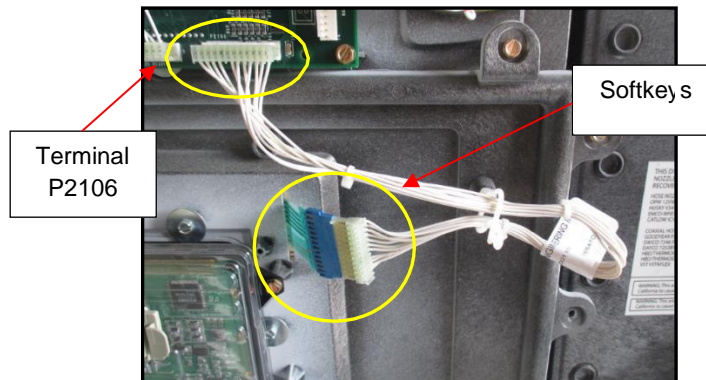

Fig 1.8 – Location of Softkey cable assembly
- 10.** Unplug the Softkey cable assembly from both the Softkeys and the Door Node at terminal position P2106 (If present). (Fig 1.8)